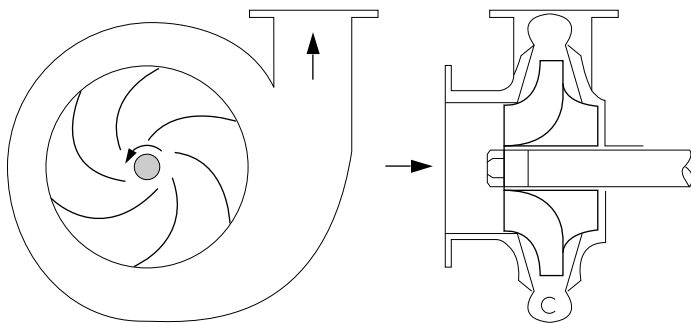

FIGURE 3. Centrifugal Pump, Single Suction
- All centrifugal pumps use but one pumping principle in that the impeller rotates the liquid at high velocity, thereby building up a velocity head (Figure 3).